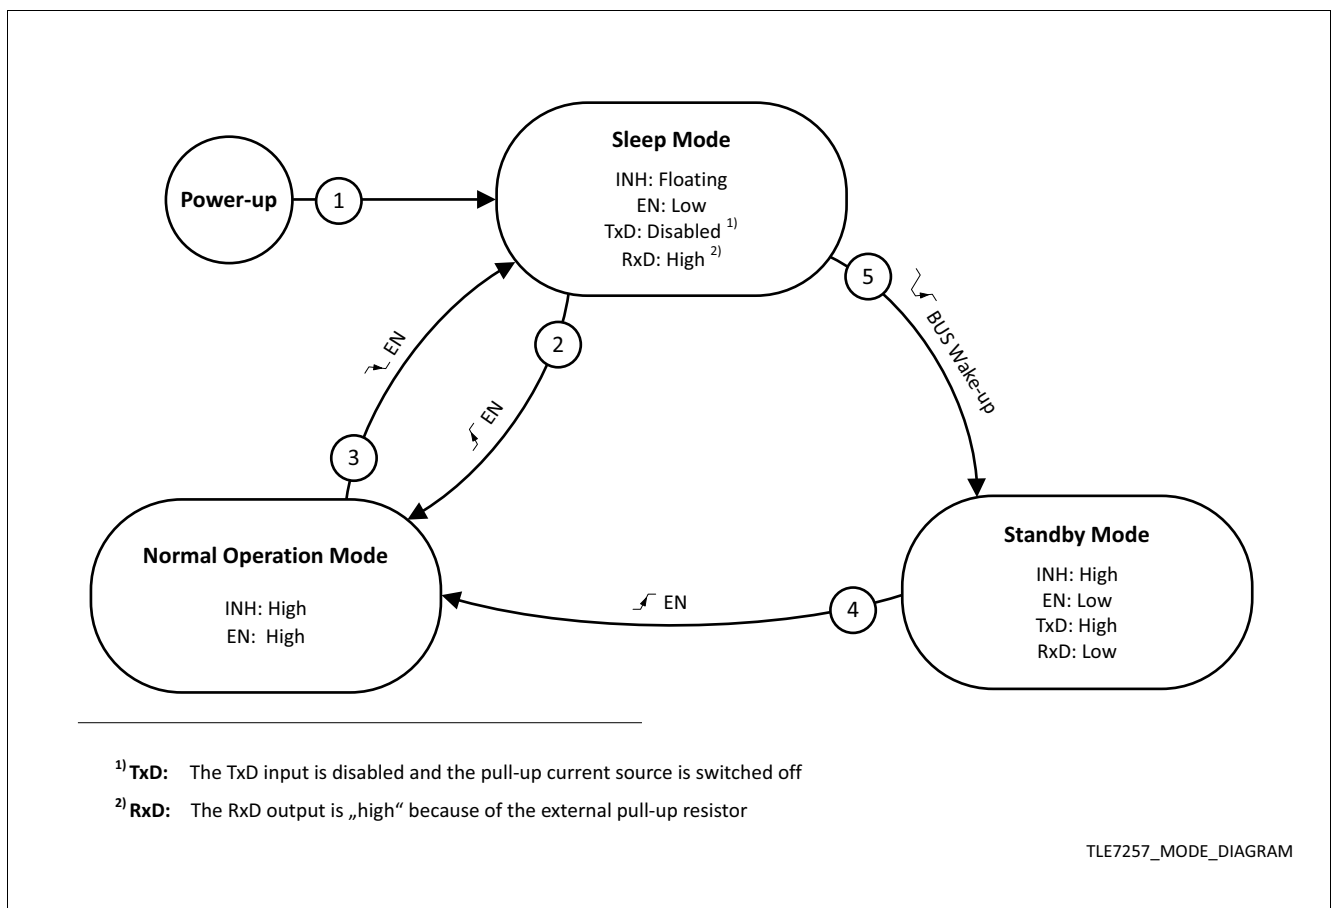
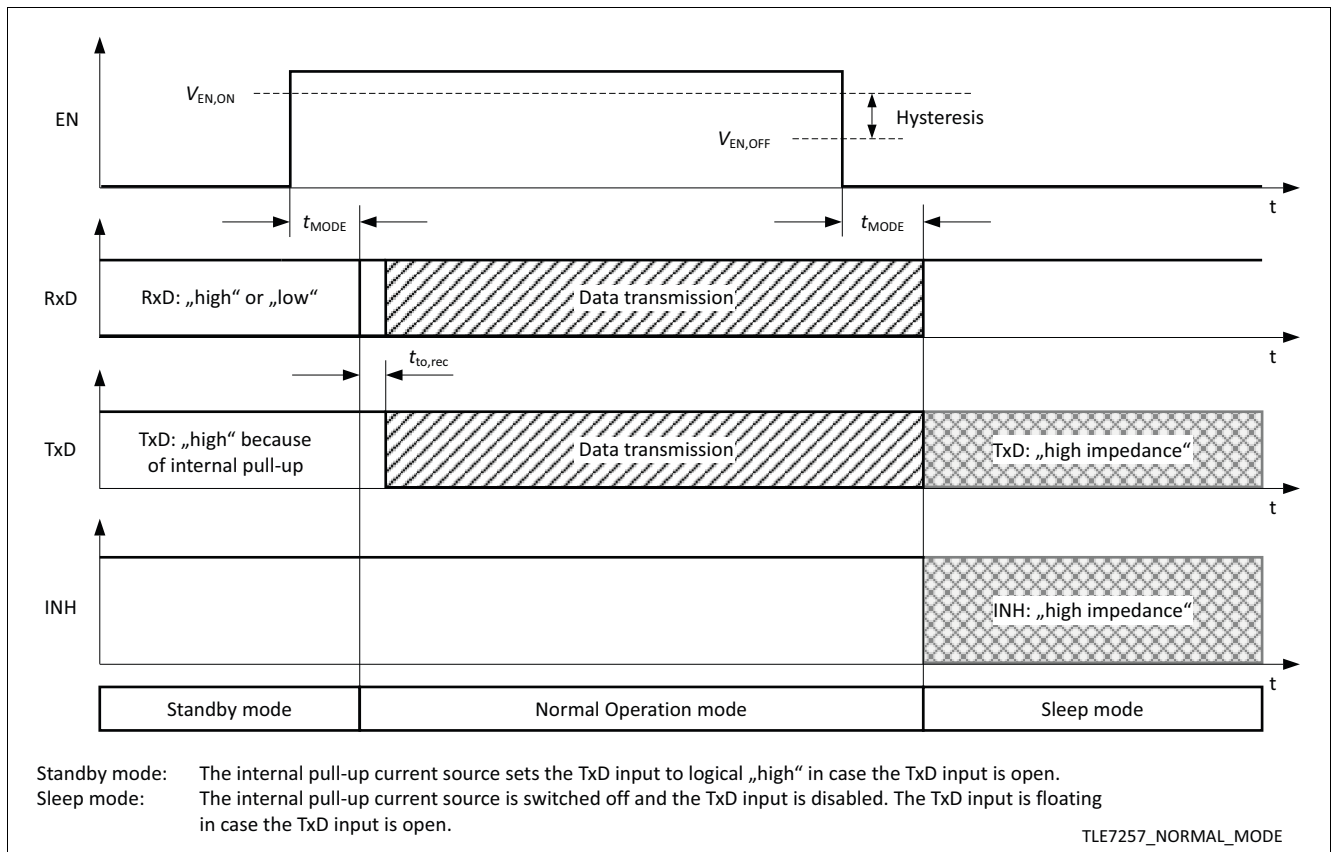
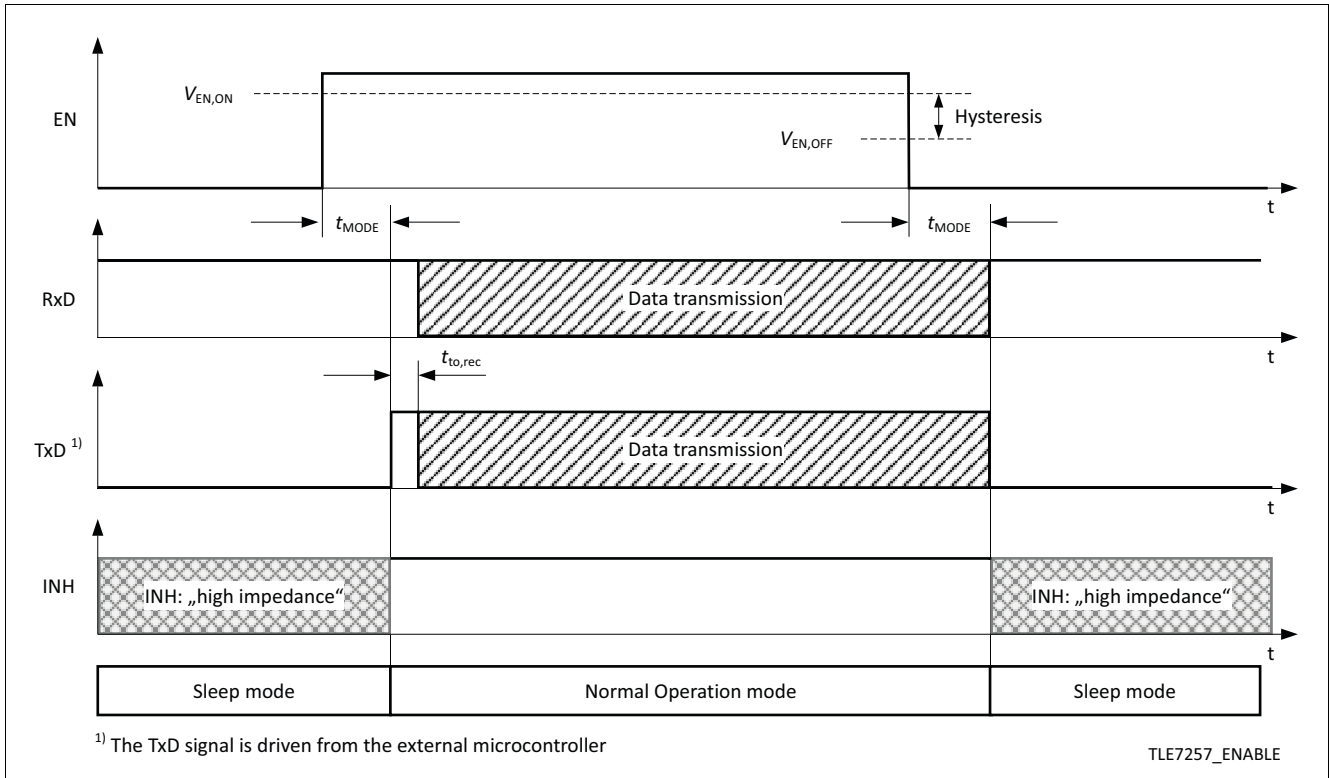

Figure 4 Operation mode state diagram
Figure 5 Entering Normal Operation mode from Standby mode
Figure 9 Entering Normal Operation mode from Sleep mode
The TLE7257 has 3 major operation modes (see **Figure 4**):
Normal Operation mode can be entered from either Sleep mode (see Figure 9) or from Standby mode (see Figure 5), by setting the EN input to logical "high". From Normal Operation mode the TLE7257 can only enter Sleep mode, it is not possible to enter Standby mode directly (see Figure 4).
After a mode change to Normal Operation the TLE7257 requires a logical “high” signal for the time $t_{to,rec}$ on the TxD input before releasing the data communication (see Figure 5). The transmitter remains deactivated as long as the signal on the TxD input remains logical “low”, preventing possible bus communication disturbance.
- The RxD output indicates a wake-up event (see Figure 4 and Table 1).
- The EN input is active. A “high” signal on the EN input triggers a transition to Normal Operation mode (see Figure 5).
To switch the TLE7257 from Normal Operation mode to Sleep mode, the EN input has to be set to “low”. Conversely a logical “high” signal on the EN input sets the device directly back to Normal Operation mode (see Figure 4). The TLE7257 can only enter Sleep mode from Normal Operation mode.
The EN input is used for operation mode control of the TLE7257. By setting the EN input logical “high” for the time t_{MODE} while being Sleep or Standby mode, a transition to Normal Operation mode will be triggered (see Figure 9). The EN input has an integrated pull-down resistor to ensure the device remains in Sleep or Standby mode even if the EN pin is left open. The EN input has an integrated hysteresis.
A signal transition from logical “high” to “low” on the EN input changes the operation mode from Normal Operation mode to Sleep mode (see Figure 5).